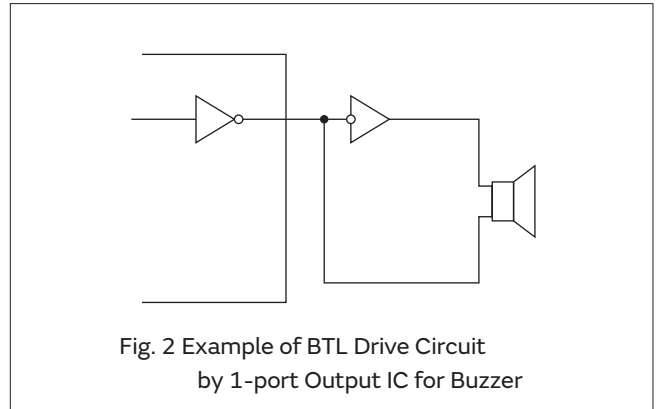

Fig. 2 Example of BTL Drive Circuit by 1-port Output IC for Buzzer
A piezoelectric ceramic plate is attached to a metal plate with adhesives. Fig. 2 shows the oscillating system of a piezoelectric diaphragm.
Applying DC voltage between electrodes of a piezoelectric diaphragm causes mechanical distortion due to the piezoelectric effect. For a misshapen piezoelectric element, the distortion of the piezoelectric element expands in a radial direction, and the piezoelectric diaphragm bends toward the direction shown in Fig. 2 (a). The metal plate bonded to the piezoelectric element does not expand. Conversely, when the piezoelectric element shrinks, the piezoelectric diaphragm bends in the direction shown in Fig. 2 (b). Thus, when AC voltage is applied across electrodes, the bending shown in Fig. 2 (a) and Fig. 2 (b) is repeated as shown in Fig. 2 (c), producing sound waves in the air.
(2) In a case that is driven by IC directly like as Fig. 2, input voltage of Piezoelectric sound components should be twice as high because of the BTL (Bridge Tied Load) drive circuit, which includes an inverter.